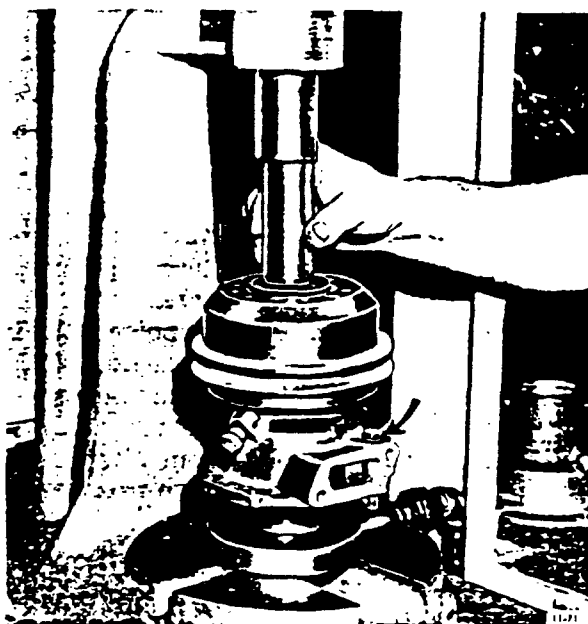

Figure 2-110. Installing Fan Drive Hub
10. Install long key in shaft, align, and using a suitable tool to engage inner part of hub, press hub on shaft. See Figure 2-110.